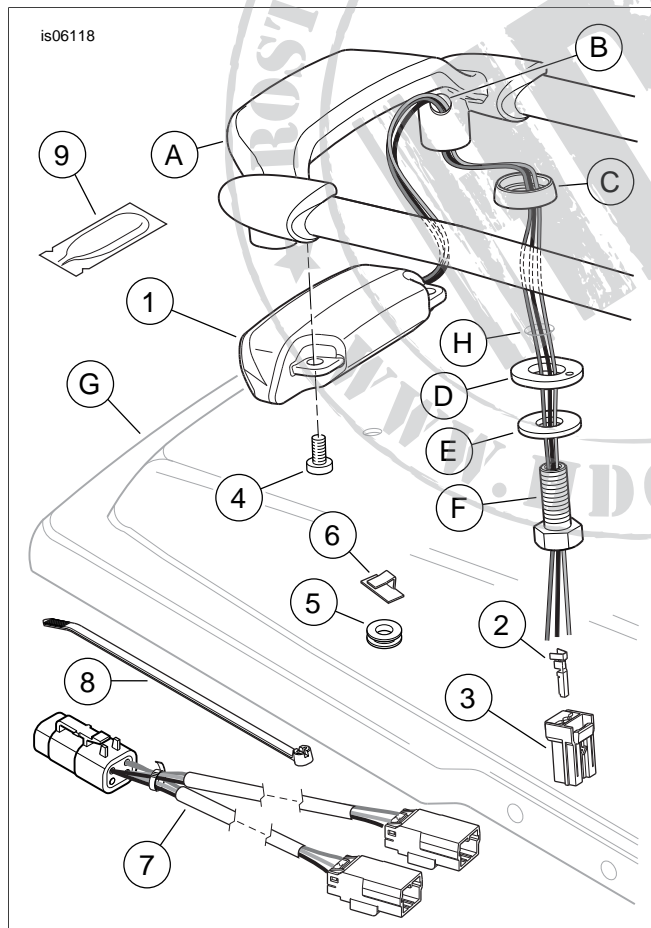

Figure 3. Service Parts, Air Wing Saddlebag Lid Rail Light Kits
See Figure 3 and Table 1.
2. **ALL installations:** See Figure 3. Obtain a saddlebag rail light assembly (1) from the kit.
3. Insert the light wires through the hole (B) in the side of the saddlebag rail (A) mounting post, and out through the bottom of the post.
4. Install the light to the underside of the saddlebag rail rear cross bar with two screws (4) from the kit. Tighten the screws >securely.
5. Insert the light wires through the left rear saddlebag rail mounting pad (C) and the left rear hole (H) in the saddlebag lid (G).
2. See Figure 3. Obtain six socket terminals (2) and two socket housings (3) from the kit. Refer to the service manual and follow the instructions to crimp the terminals onto the saddlebag rail light wires.